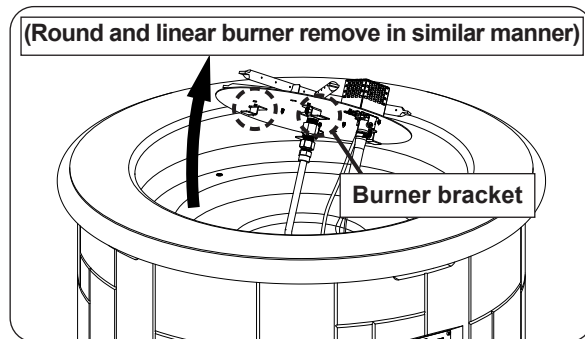

Fig. 47-1 Remove burner assy
1. The burner will need to be removed. Remove all media. Use a $\frac{5}{16}$ " nut driver to partially unfasten the 4-8 screws found on the burner assembly. Then carefully remove the burner and set it off to the side. See Fig 47-1.